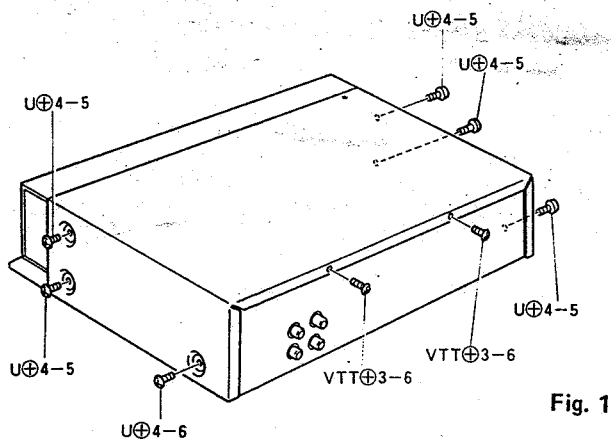

Fig. 1
- 1) Remove 8 screws. (See figure 1)